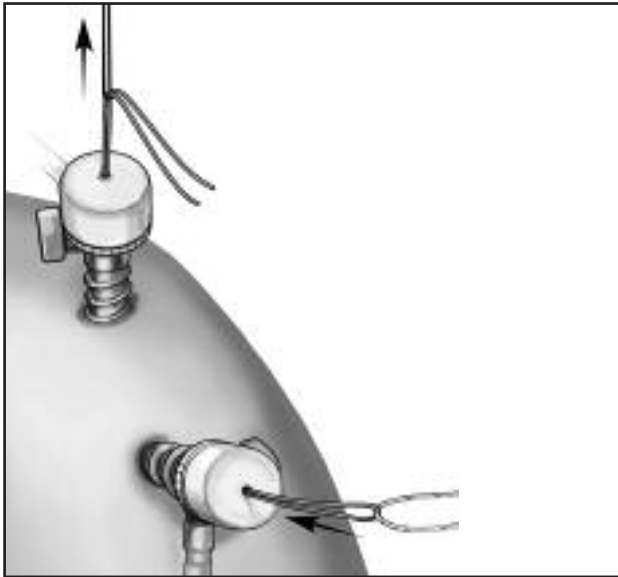

Figure 8
6. Pass six inches of both limbs of the colored suture leader, preloaded on the KINSA[®] Suture Anchor, through the monofilament loop end (Figure 7). Shuttle the colored suture leader through the tissue by pulling the tails of the monofilament out the non-operative cannula (Figure 8). Remove the monofilament.